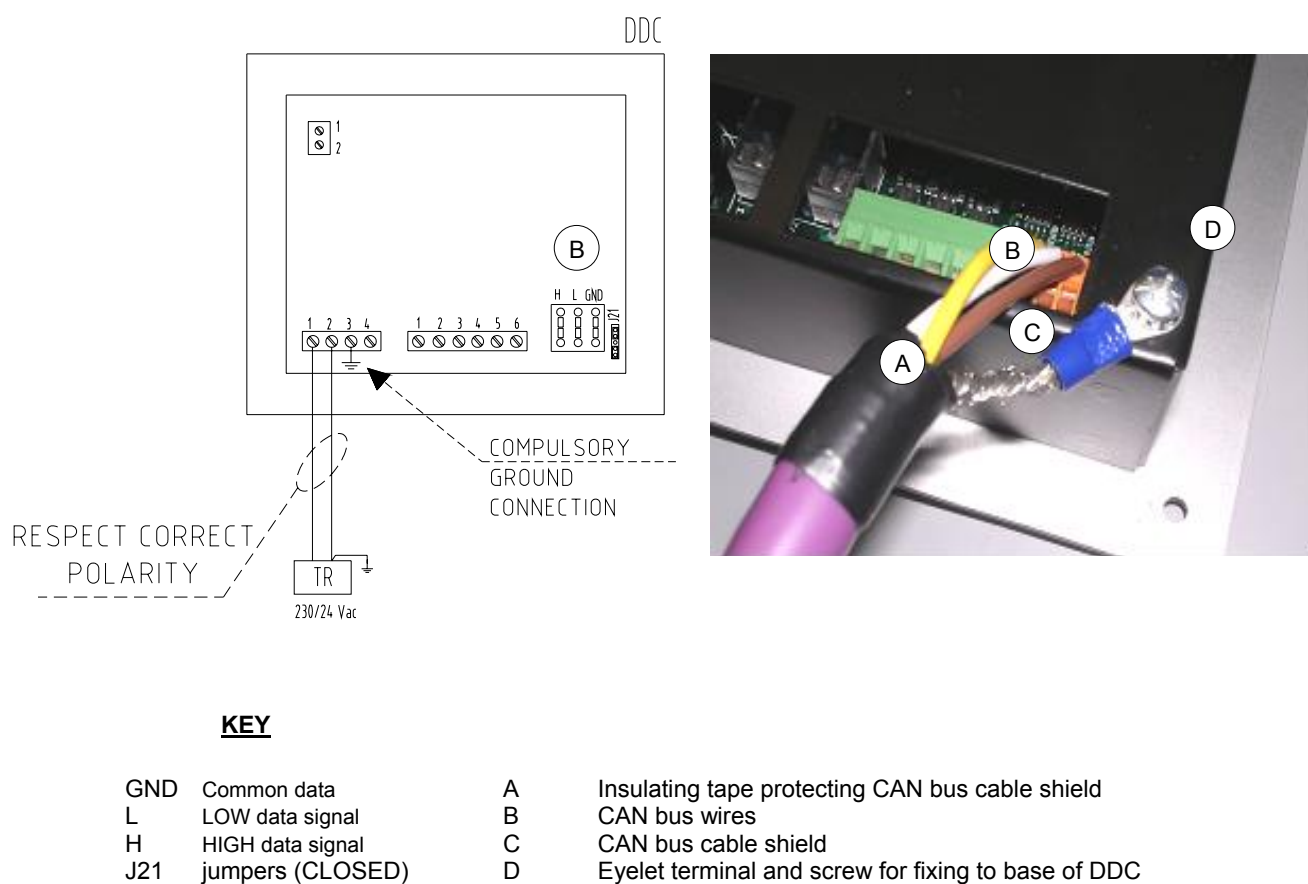

Figure 27 - Direct Digital Controller (DDC) – wiring diagram and partial rear view
Before working on the DDC, make sure that it is off. The DDC, like the electronic board on the appliance, has jumpers that must be moved so that it can be configured as an intermediate or terminal node. The position of the jumpers on a new DDC is CLOSED, as illustrated in Figure 27, on page 62.
5. Roll the shielding and connect it to a 4-mm eyelet terminal as illustrated in Figure 27 on page 62, points C and D. Then, proceed as follows.
9. Use the fixing screw of the rear cover, located near the CAN bus socket, to fix the 4-mm eyelet (or 2 eyelets for intermediate nodes, see detail D, Figure 27 on page 62).
Connect the DDC to the transformer via the 4-pole connector provide for this, following the diagram in Figure 27 on page 62. With the DDC cover opened (unscrew the 4 screws to remove cover), pass the cable through the opening in the cover before fixing the wires to the connector.
As in Figure 27, the connections to the terminals of the 4-pole connector are:
After having carried out all of the above operations, close the rear cover of the DDC if opened, and tighten the 4 screws taking care to fasten the eyelet (or eyelets) of the CAN bus cable shield with the screw at the bottom right, as illustrated in Figure 27 on page 62.